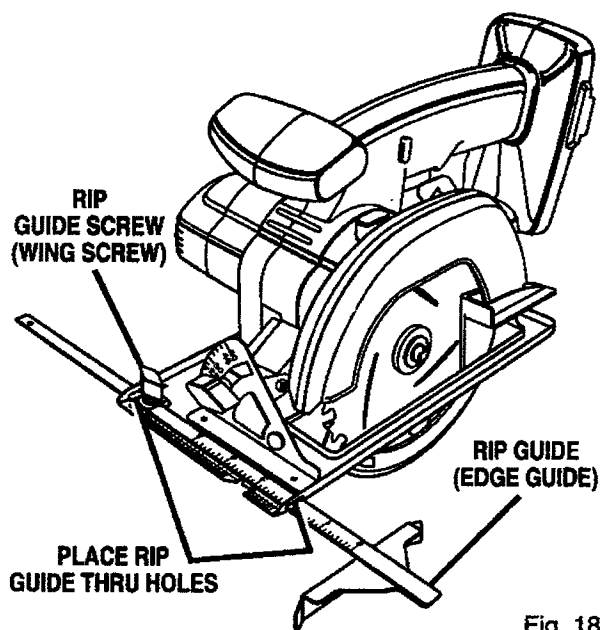

Fig. 18
- Place rip guide through holes in saw base as shown in figure 18.